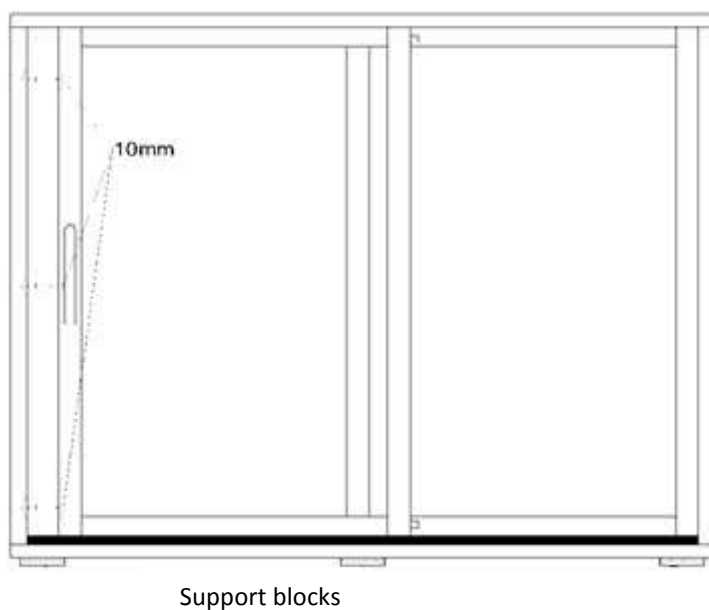

Figure 13. Location of support blocks when installing a parallel sliding door
11. Support blocks should always be placed in locations showed on the figure (see Figure 13. Location of support blocks when installing a parallel sliding door).
15. Fasten the jamb according to the active frame so, that the vertical gap between the jamb and frame is evenly 10 mm (see Figure 13. Location of the support blocks when installing a parallel sliding door).